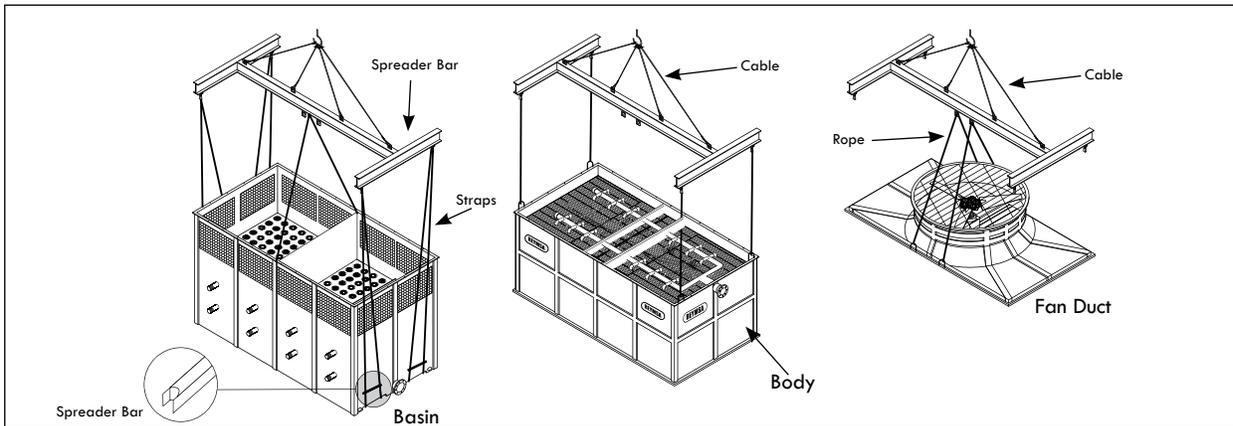

Figure A- 28: Crane lifting for HFC-F models
- B. After verifying the equipment is received in proper conditions, proceed to unload it piece by piece, with a crane or forklift of the appropriate capacity (see Figure A-28 for reference).
- D. Surround the lower section of the tower with the straps, placing them through the basin openings (as shown in Figure A-28), it's important to use a spreader bar to avoid damage on the upper edge of the tower, when lifting don't balance until tensing the straps, pad the strap areas on the tower to avoid scratching.